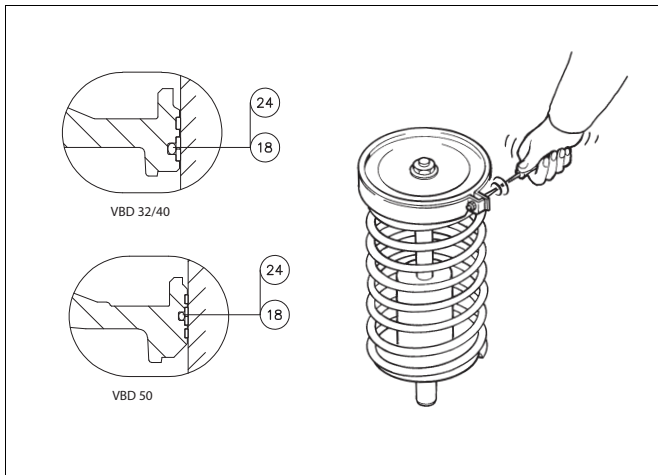
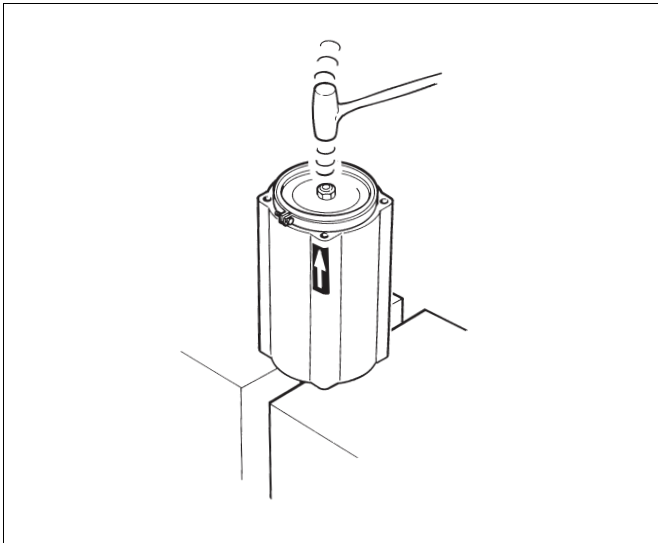

Fig. 7 Tightening piston seals with a tie ring
Fig. 8 Placing the piston into cylinder pipe
- Apply VCI-369 to O-ring groove on the piston (9).
- Use tie ring to assemble the piston ring (24) to the prefabricated spring package. Refer to Fig. 7.
- Lubricate seal space, inner surface of bearing (2) and new O-rings with Unisilikon L250L or equal silicone grease.
- Put the bearing (2) and new O-rings (16) into the cylinder base (6).
- Mount the cylinder pipe (8) to the cylinder base (6).
- Fasten the VB 32 screw (31) or VB 40/50/60 stud (31) and hexagon nut (45) on the cylinder base (6).
- Press the prefabricated spring package into the cylinder pipe (8). Refer to Fig.8.
- Make sure that piston rod (10) is not scratched.
- Mount the cylinder end (44) to the cylinder pipe (8).
- Fasten the VB 32 screw (31) or VB 40/50/60 stud (31) and hexagon nut (45) on the cylinder end (44).
- Mount the yoke (1) on the cylinder base (6).
Refer to Fig. 8.